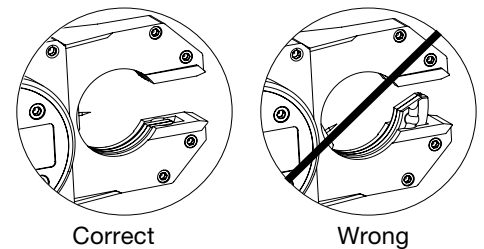

Figure 43 Rotor Position
3. Verify proper rotor position. See Figure 43.